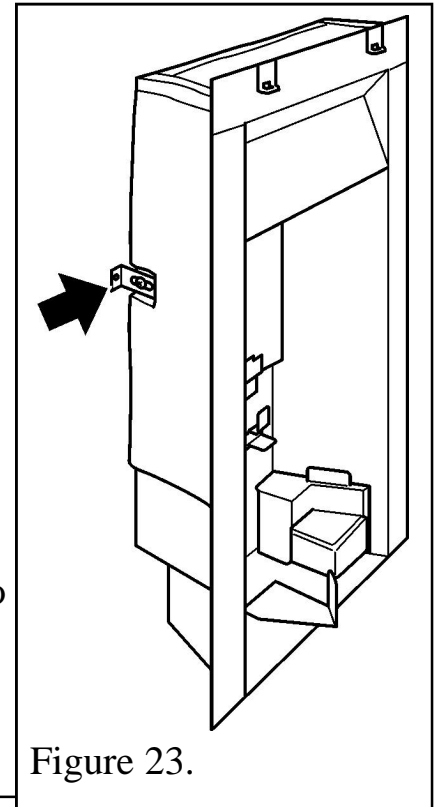

Figure 23.
1. Loosely assemble the two fixing brackets provided (See figure 23) using the screws provided.